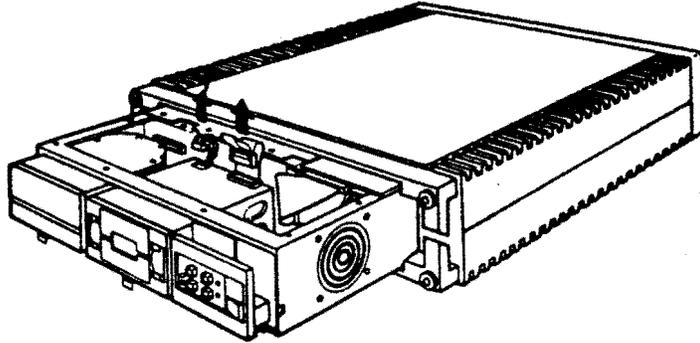

Figure 4-19: RX50 Cable Access
1. Slide the drive forward to access the cables at the rear of the drive, and disconnect the dc power cable and signal cable (Figure 4-19).